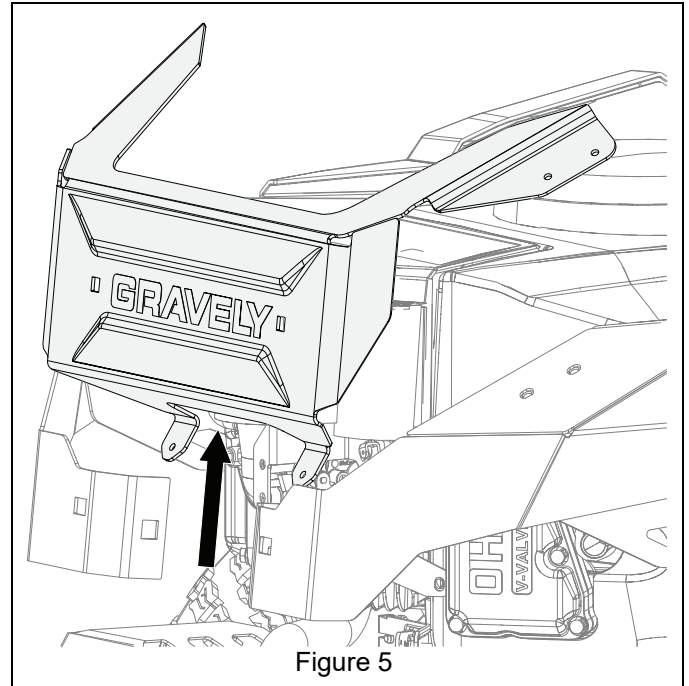

Figure 5
- Carefully remove wrap from unit. Use care to not scratch painted surfaces. See Figure 5.